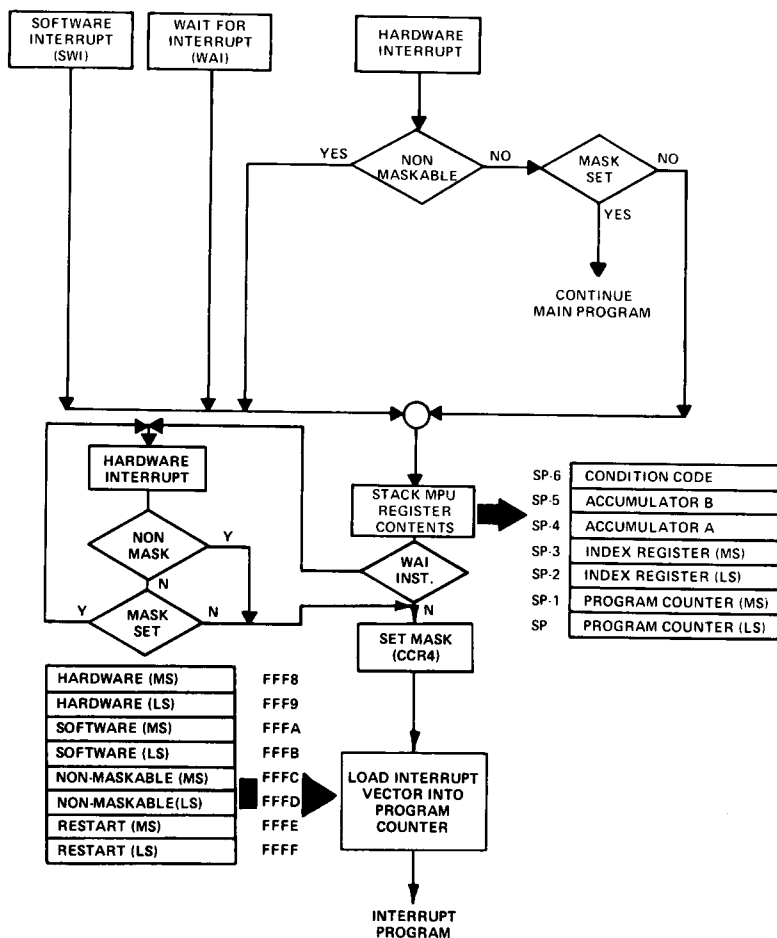

Fig. 9.6 Interrupt flow chart
2. *HALT (Pin 2)* When the input on this pin is in the high state ("1"), the MPU will fetch and execute instructions. When the HALT line goes low, the MPU will finish execution of the instruction it is processing before halting. When the MPU is in the halt mode, the Bus Available (BA) line will be high, the Valid Memory Address (VMA) line will be low, and the Read/-Write (R/W) line, the address bus, and the data bus will be in the high-impedance state. If an interrupt ($\overline{\text{IRQ}}$ or $\overline{\text{NMI}}$) should occur while the MPU is in the halt state, it will be latched into the MPU until the latter is taken out of the halt mode, at which time it will service the interrupt. The $\overline{\text{HALT}}$ line permits an external source to control program execution by executing one instruction at a time. This capability is particularly useful during program debugging. During normal operation of a system, this pin would be tied to +5 V.
4. *Interrupt Request Line ($\overline{\text{IRQ}}$) (Pin 4)* When the $\overline{\text{IRQ}}$ line from the PIAs (or some other external device) goes low, the MPU will complete the instruction it is executing and then go into an interrupt sequence, providing the interrupt mask has not been previously set to inhibit interrupts. During the first step in this sequence, the contents of the index register, the program counter, the A and B accumulators, and the condition code register will be stored on the stack (in RAM) for later use. Next, the I bit in the condition code register will be set to a "1" so that no further interrupts may occur. The MPU will now load the contents of the highest ROM address minus 6 and the contents of the highest ROM address minus 7 into the program counter. This vectoring address will occur when the MPU puts the addresses FFF8 and FFF9 on the address bus. The contents of these locations contain the address of the program that is to service the interrupt by prescribing the action the MPU is to take because of the interrupt. At some point in the servicing program, an RTI instruction will be encountered that will cause the MPU and its internal registers to be restored to the condition they were in before the interrupt. See Fig. 9.6 for a detailed flowchart of the interrupt sequence.
6. *Nonmaskable Interrupt ($\overline{\text{NMI}}$) (Pin 6)* This input pin is similar to the $\overline{\text{IRQ}}$ input, except that the interrupt is *nonmaskable*. As with the $\overline{\text{IRQ}}$, the MPU will complete the instruction being executed before it recognizes the $\overline{\text{NMI}}$ interrupt. After the contents of the program counter, index register, A and B accumulators, and the condition code register have been stored on the stack (RAM) for later use, the I bit will be set to a "1". The contents of ROM locations FFFC and FFFD will next be loaded into the program counter. These locations contain the address of the program that services the nonmaskable interrupt. Again, when the MPU comes to an RTI instruction in the servicing program, it, along with its registers, will be restored to the condition it was in before the nonmaskable interrupt. See Fig. 9.6 for a detailed flowchart of the interrupt sequence.